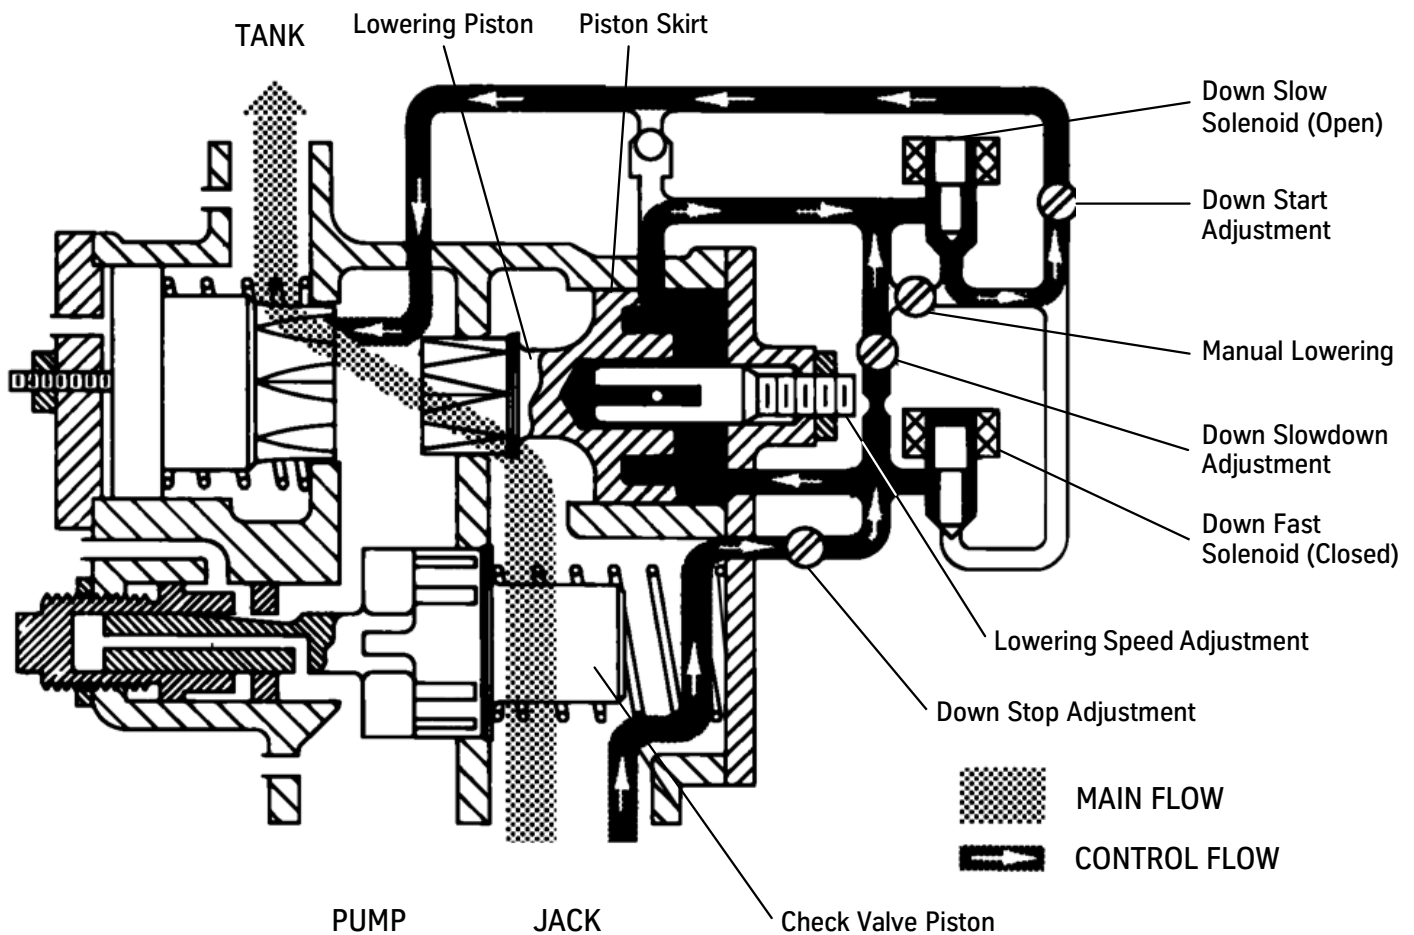

Figure 12 - Down Slowdown and Leveling Diagram
1. To change to leveling speed, the down fast solenoid closes. The lowering piston starts in the full open position, and the piston skirt blocks the oil passage to the tank. See Figure 12.